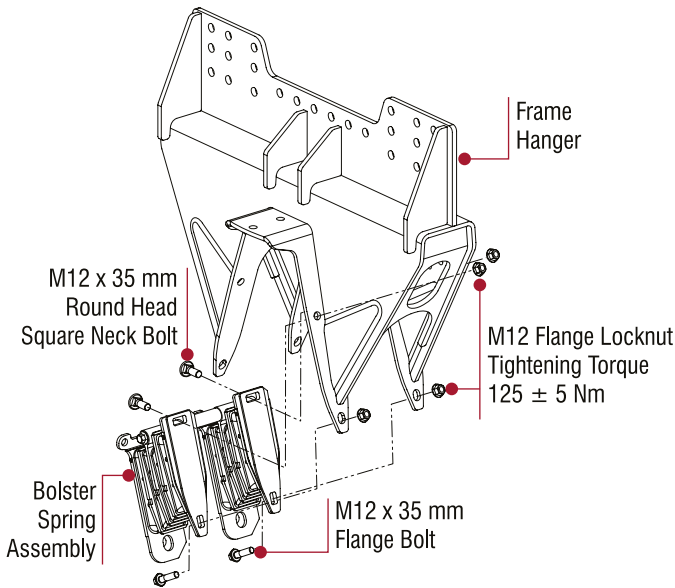

Figure 21: Hanger to Bolster Spring Fasteners
4. Install the tie-bar bolster spring assembly to frame hanger and tighten to **125 Nm** torque, refer Figure 21.
5. Install the upper rebound strap fastener and tighten to **125 Nm** torque, refer Figure 21.
4. Tighten the upper tie-bar bolster spring fasteners to the frame hanger to **125 Nm** torque, refer Figure 21.